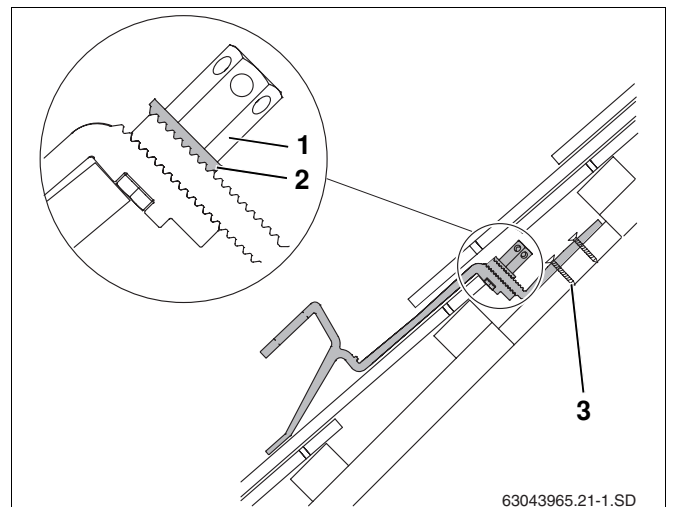

Fig. 19 Fitted roof hook – cross section showing shortened lower part of roof hook
The serated washer (Fig. 19, **Item 2**) must grip the teeth on the lower part of the roof hook.
- Tighten the long hexagon nut (Fig. 19, **Item 1**). To do this, insert the size 5 Allen key into the hole in the hexagon nut and turn.
- Using suitable screws, fasten the lower part of the roof hook into the first (Fig. 19, **Item 3**) and second holes (at least) of the joist or board.